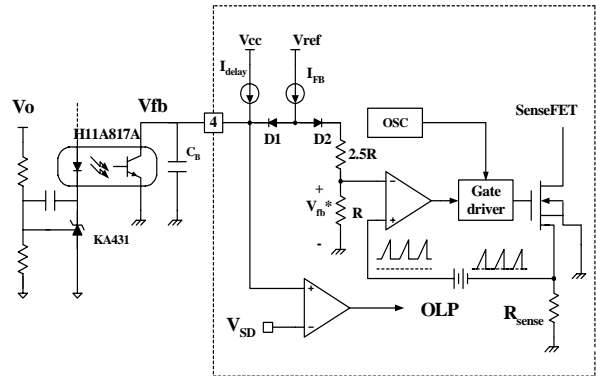

Figure 11. Pulse width modulation (PWM) circuit
3. Feedback Control : FSCQ1565RT employs current mode control, as shown in Figure 11. An opto-coupler (such as the H11A817A) and shunt regulator (such as the KA431) are typically used to implement the feedback network. Comparing the feedback voltage with the voltage across the R_{sense} resistor plus an offset voltage makes it possible to control the switching duty cycle. When the reference pin voltage of the KA431 exceeds the internal reference voltage of 2.5V, the H11A817A LED current increases, thus pulling down the feedback voltage and reducing the duty cycle. This event typically happens when the input voltage is increased or the output load is decreased.
3.1 Pulse-by-pulse current limit: Because current mode control is employed, the peak current through the Sense FET is limited by the inverting input of PWM comparator (Vfb*) as shown in Figure 11. The feedback current (I_{FB}) and internal resistors are designed so that the maximum cathode voltage of diode D₂ is about 2.8V, which occurs when all I_{FB} flows through the internal resistors. Since D₁ is blocked when the feedback voltage (Vfb) exceeds 2.8V, the maximum voltage of the cathode of D₂ is clamped at this voltage, thus clamping Vfb*. Therefore, the peak value of the current through the Sense FET is limited.